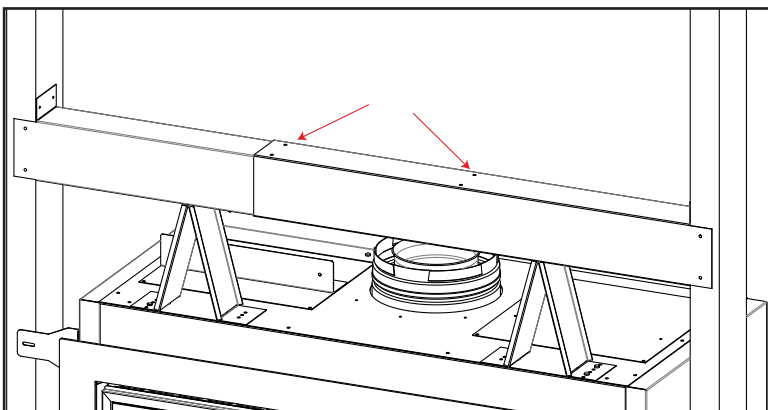

Figure 29: Steel Stud Installation
- Using the provided sheetmetal screws, attach the two steel stud pieces together using the labeled holes in Figure 29. This should be done on the top and bottom of the steel stud to ensure its rigidity.